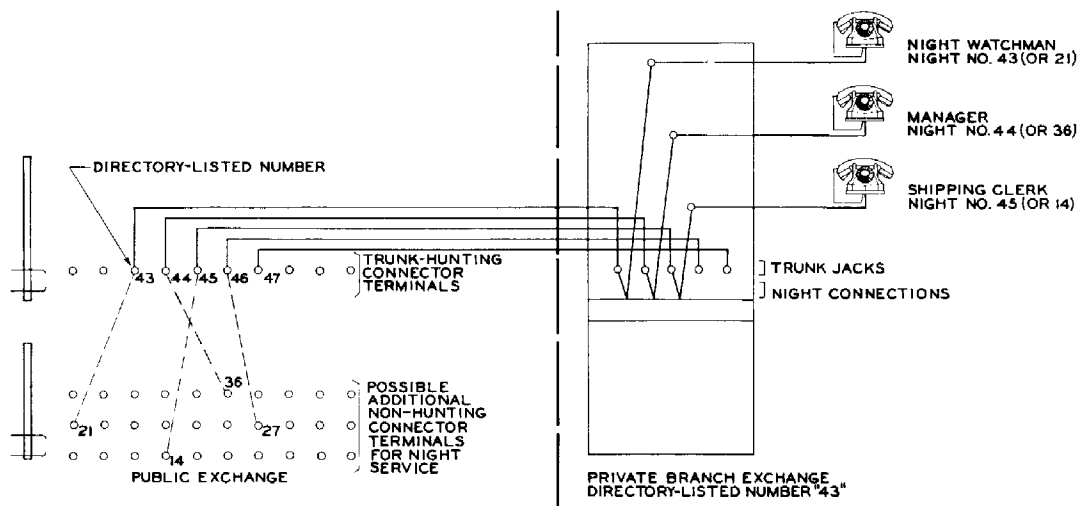

Figure 8. Night connections at a private branch exchange.
3.21 Night service. Let us now assume five o'clock has come, the "night connections" shown in figure 8 have been put up, and the P.B.X. operator has gone home. A call to 43 will ring the night watchman, who can inform callers that the establishment opens at such-and-such time the next morning, can give out home numbers for urgent calls, etc. If, however, two calls are made to 43 in close succession, the first will busy 43, the connector for the second call will hunt past 43 and ring 44, and perhaps no one will answer. Again, perhaps the manager is working after hours, and has told
If the problem locally is serious, however, two solutions are possible. Simplest is the case of just one individual who works overtime frequently, and wishes his callers to get busy tone when his telephone is in use; he should be plugged into the last line in the P.B.X. trunk group, 47 in figure 8.
numbers appear in effect as the last line of a one-line group, and, if busy, cannot cause hunting, but will return busy tone. Again using figure 8, if the manager dials 21 from his home, he is sure either to ring the night watchman or to hear busy tone. If the manager tells people to call him on 36 at night, they will get him or busy tone; they will never get the shipping clerk. However, the telephone company must give up two sets of numbers, and each P.B.X. station user must ask his most frequent callers to remember two dissimilar numbers, or have a separate night listing in the directory.
This sort of connector is recommended where special attention to night service is desired, as all terminals of the group except the first one may be used for night listing. It is sometimes referred to as a "night-service" or "pilot-number" connector. If the caller dials the regular directory-listed "pilot" daytime number, and it is busy, the connector sets itself to hunt; if any other number than the first in the group is dialed, as at night, the connector will not hunt. Such connectors make unnecessary the assignment of the extra terminals shown dotted in figure 8. It is such a connector we'll study in §4.